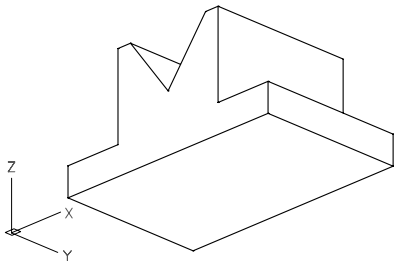

Figure 2-19 Viewing the 3D model with the angle in the XY plane as **315** and the angle from the XY plane as **-25**
1. If you set a negative angle from the *XY plane*, the *Z axis* will be displayed as a dotted line, indicating a negative *Z direction*, refer to Figures 2-19 and 2-20.